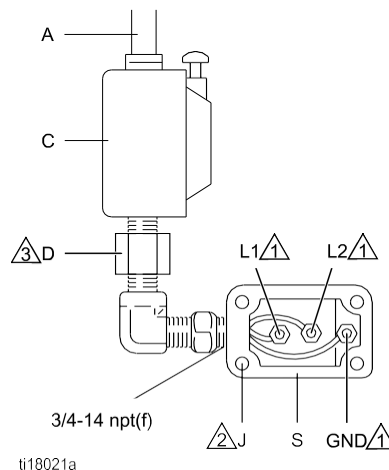

Figure 3 Connect the Power Wires, Single Phase
A conduit seal (D) is required within 18 in. (457 mm) of the motor for the US and Canada. See Fig. 3.
2. See Figs. 3 and 4. Install a start/stop control (C) in the electrical supply line (A), within easy reach of the equipment. The start/stop control must be approved for use in hazardous locations.
3. Open the electrical compartment (S) on the motor.
4. Bring the supply wires into the electrical compartment through the 3/4–14 npt(f) inlet port. Connect the wires to the terminals, as shown in Figs. 3 and 4. Torque the terminal nuts to 15 in-lb (1.7 N-m) maximum. **Do not over-torque.**
Notes for Figs. 3 and 4
1. Connect the supply ground wire in the electrical compartment as shown in Figs. 3 and 4.